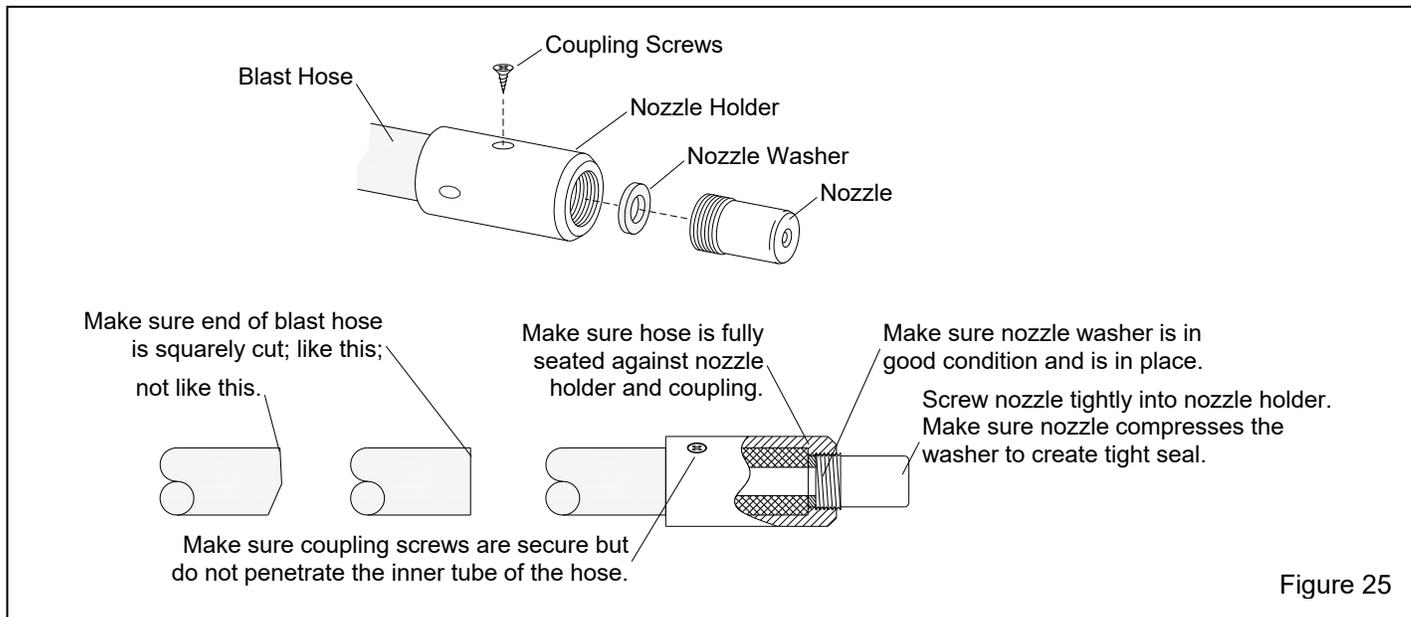

Figure 25
## 7.3 Blast Hose and Nozzle – Figure 25
**7.3.2** When replacing blast hose, make sure the hose is square cut and that it is fully inserted into the nozzle holder and coupling until it sets tightly against the shoulder in the holder and coupling, as shown in Figure 25. Make sure correctly-sized screws are used to secure the nozzle holder and blast-hose coupling. Screws should not penetrate the inside of the blast hose.